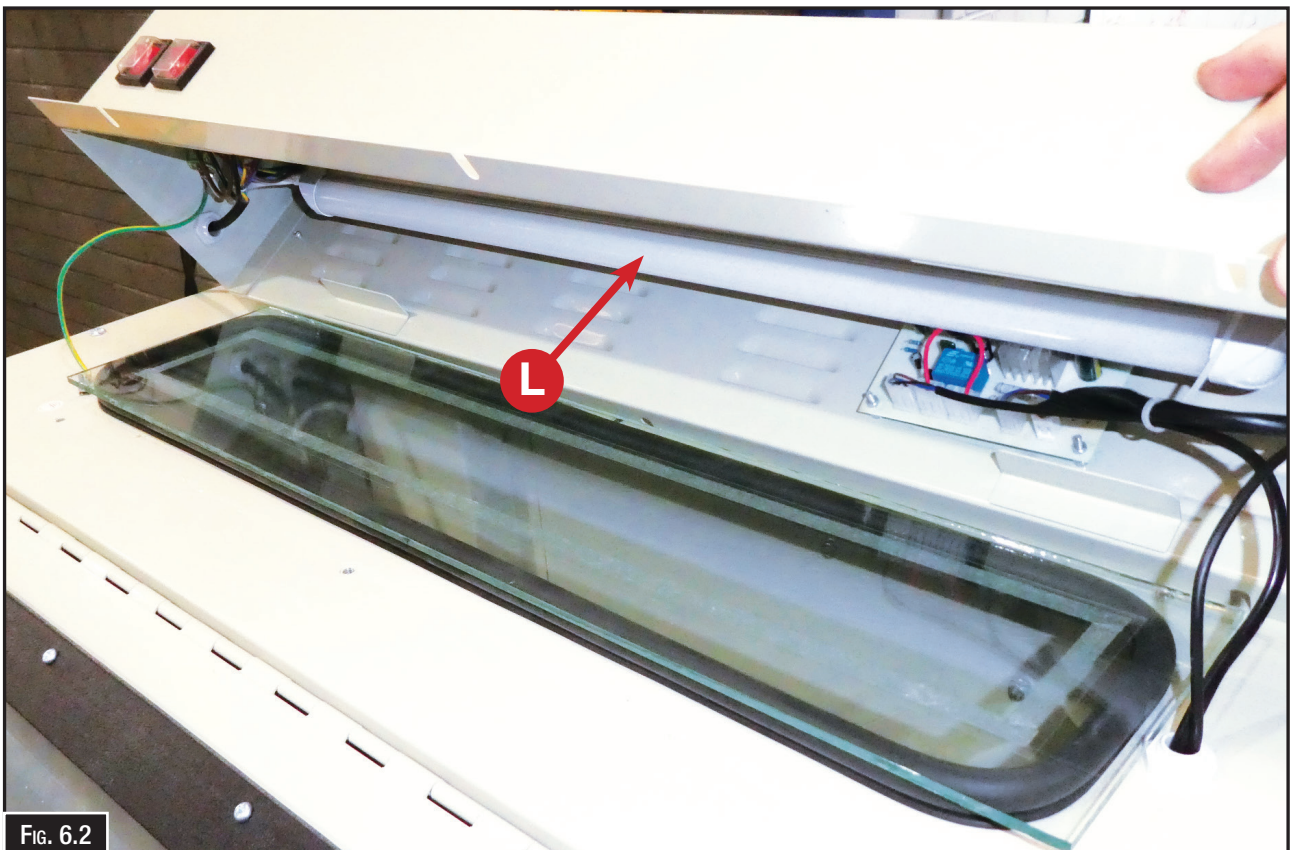

FIG. 6.2
- 3 Remove the old light tube (L) (Fig. 6.2) and install the new replacement tube (**Order Code: 2SC0012A**).